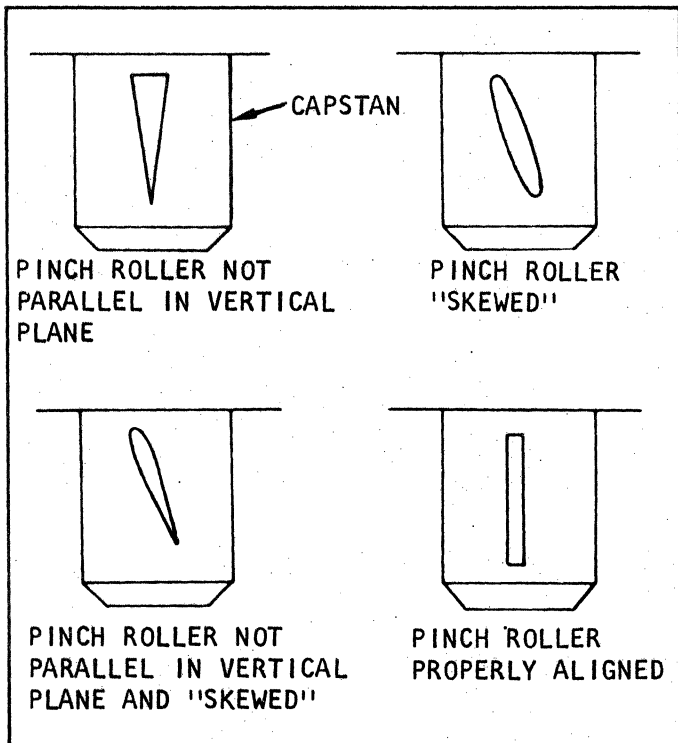

Figure 5-7A. Pinch Roller Alignment Patterns on Capstan
- 5-50. Figure 5-7A illustrates some of the patterns that may be printed on the capstan. These patterns indicate the direction in which the correction for parallelism must be made. Loosen the capscrews, clamping the pinch roller shaft to the yoke, and adjust as necessary to obtain the correct pattern. When properly set, secure the capscrews and clean the blueing compound off the capstan and the pinch rollers.